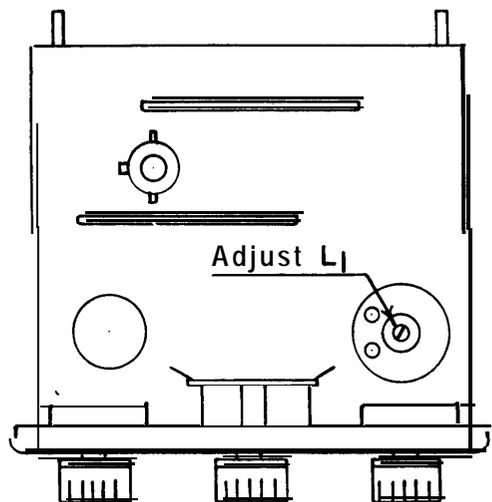

Fig. 6 Top of QX'er
8. Set Q-X'er switch to PEAK. Set PEAK ADJ. control to a point just below oscillation. Rotate Q-X'er TUNING knob to peak carrier (maximum "S" meter reading). This should occur at the center of the Q-X'er tuning range. If it does not, adjust the screw on the shielded coil, L1 (see fig. 6), to peak the carrier at this point.